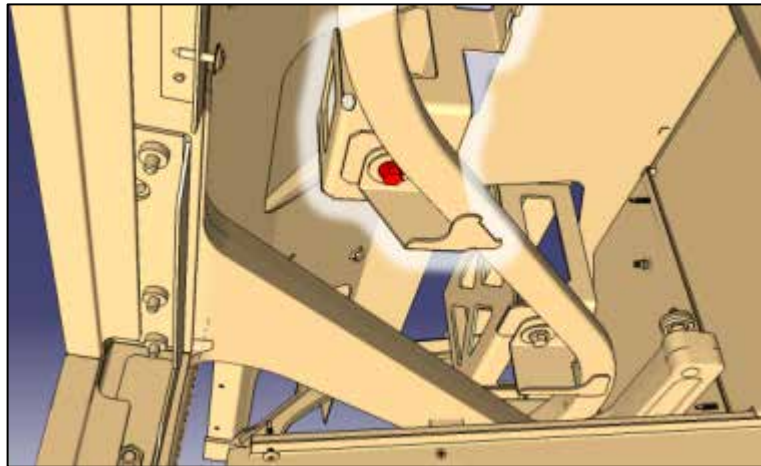

Figure 66: Looking aft
- 101. Locate the mid rail support (Figure 66)